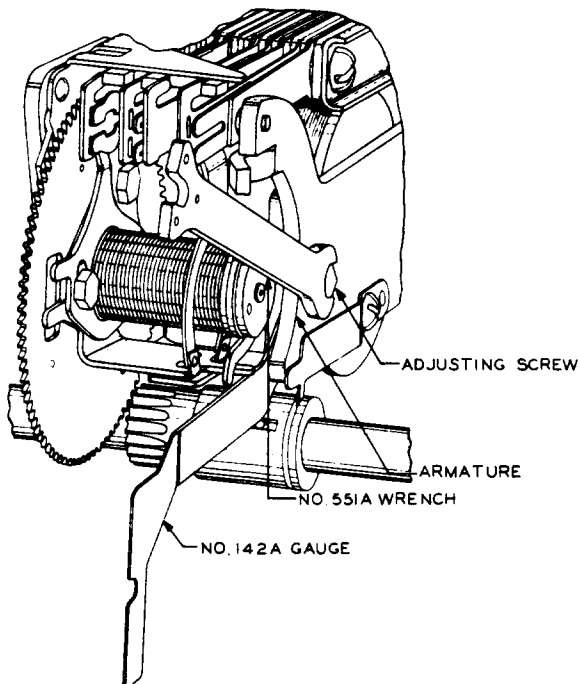

Fig. 23 - Method of Adjusting Armature Travel
(1) To adjust the armature travel, turn the armature adjusting nut with the No. 551A wrench until the 0.053-inch end of No. 142A gauge can be inserted loosely between the armature stop plate and pole piece as shown in Fig. 23, and the 0.060-inch end of the gauge if it can be inserted without forcing, does so with a snug fit.